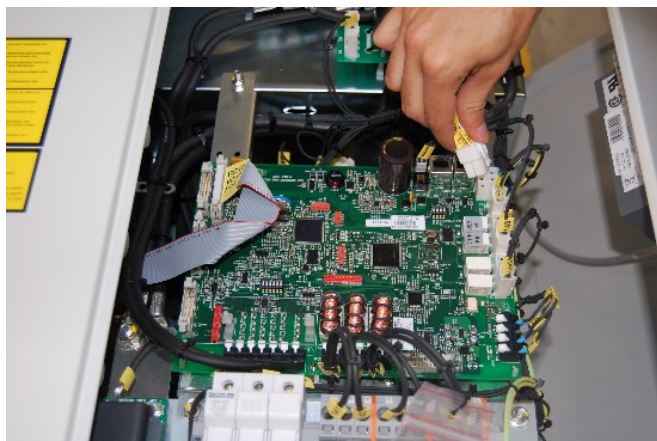

Figure 4: Unplugging the PQF-Manager from the main system
- Unplug the PQF-Manager from the main system (see Figure 4). Then the protective cover can be safely put aside.